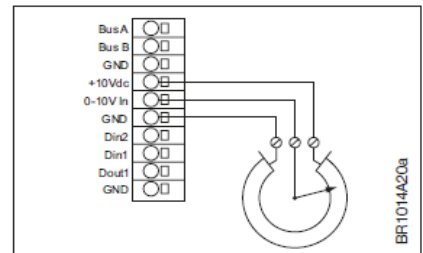

Fig. 3-14.2
- Potentiometer, electrical connection, see fig. 3-14.2 (Potentiometer: min. 500 Ω, recommended 4,7 kΩ)
- The "+10Vdc", "0-10V In" and "GND" terminals can be connected to a potentiometer, see electrical connection in fig. 3.14.2.